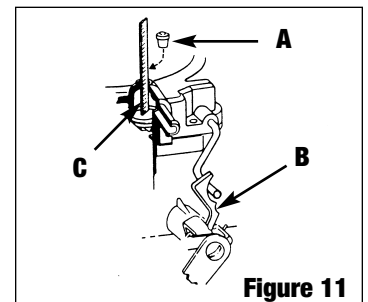

Figure 11
• **VENTILATION DE CUVETTE MODELE 1400 (FIG. 11)**